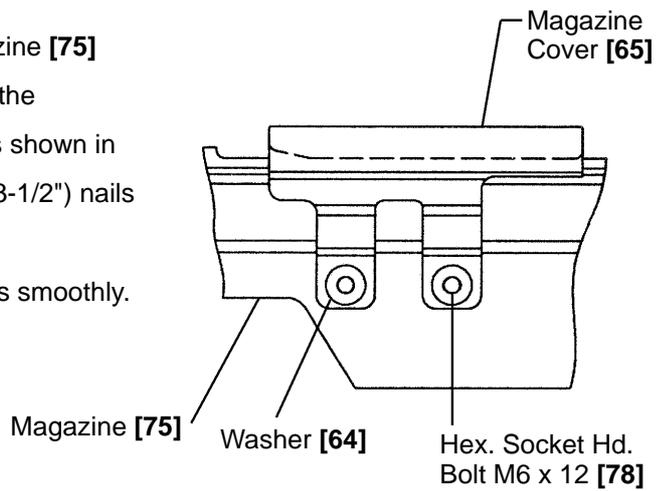
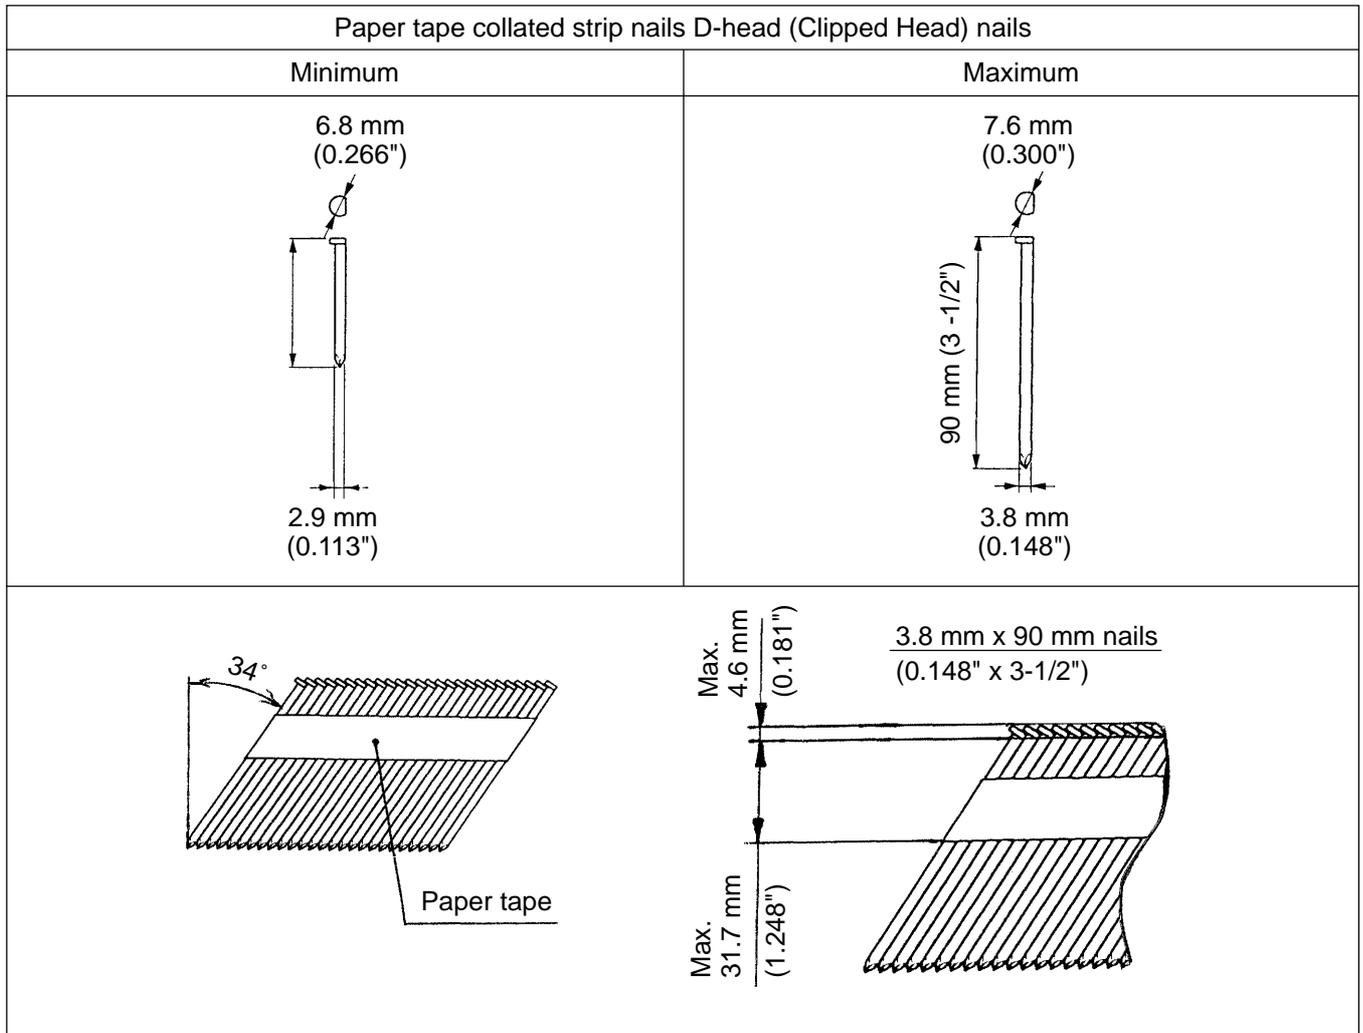

Fig. 14 Reassembly of the Magazine Cover
Fig. 15 Dimensions of nail
- Secure the Magazine Cover [65] to the Magazine [75] with the Hex. Socket Hd. Bolt M6 x 12 [78] at the specified tightening torque (see section 10) as shown in Fig. 14. Load the 3.8 mm x 90 mm (0.148" x 3-1/2") nails specified in Fig. 15 in the Magazine [75]. Check that the Nail Feeder [66] feeds the nails smoothly. Otherwise, reassemble the Magazine Cover.